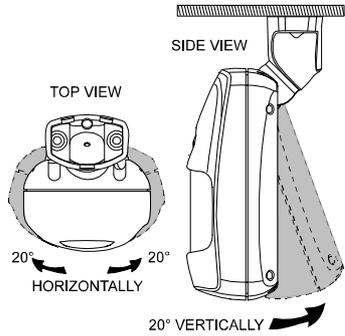

Figure 8. Tilt/Swivel Limits
7. Tilt down or swivel the detector to face the desired direction. Figure 8 shows the tilt/swivel possibilities.